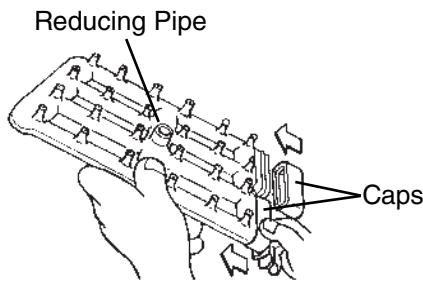

Fig. 39
- 11) Refit the 2 caps in their correct positions. Make sure the reducing pipe is in place in the center. See Fig. 39.